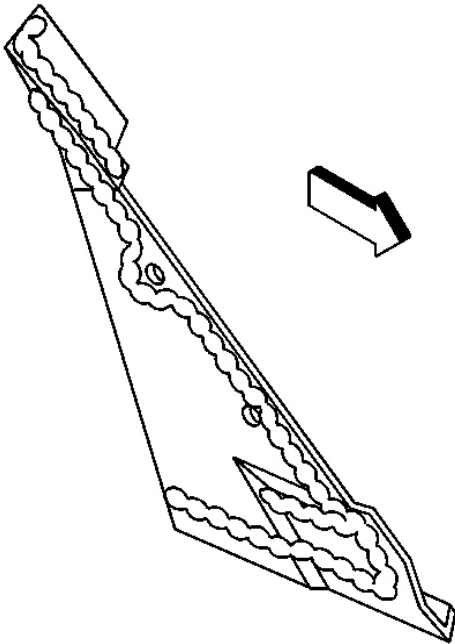

Fig. 14: Side Window Filler Panel To Windshield Pillar
1. Apply a continuous bead of sealant GM P/N 12345097, or equivalent, to the side window filler panel along the surface that will contact the windshield pillar as illustrated. (**fig. 14**)